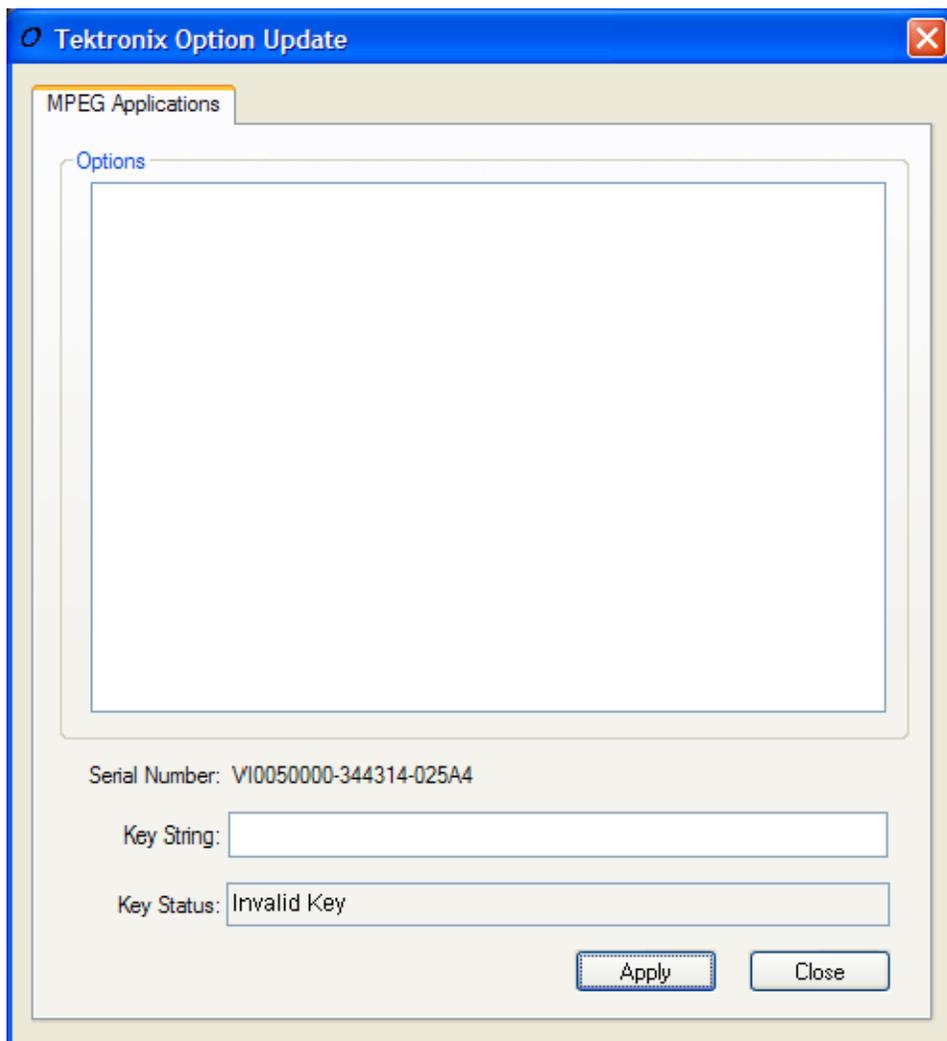

Figure 3: Tektronix Option Update Wizard - Initial view
8. When the unit has completed the start-up process, the Tektronix Option Update wizard will start automatically (see Figure 3).